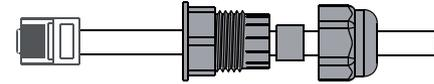

Figure 4.6-4 Remotely close the cable connection
**Step 3-2 For Remote Shutdown.** Run the cable through the steel plate , Then wire from pins 5 and 6. Table 4.6-1 describes the 6-pin port definition, Wiring is shown in Figure 4.6-4.